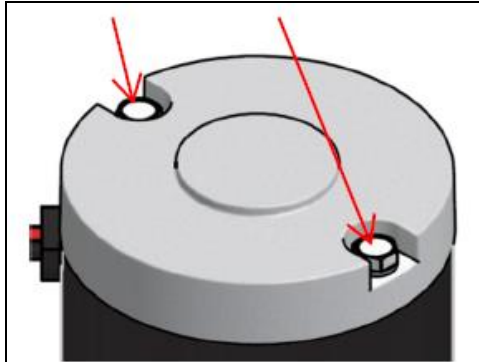

Figure 1
1. Remove (x2) motor bolts (**Figure 1**).